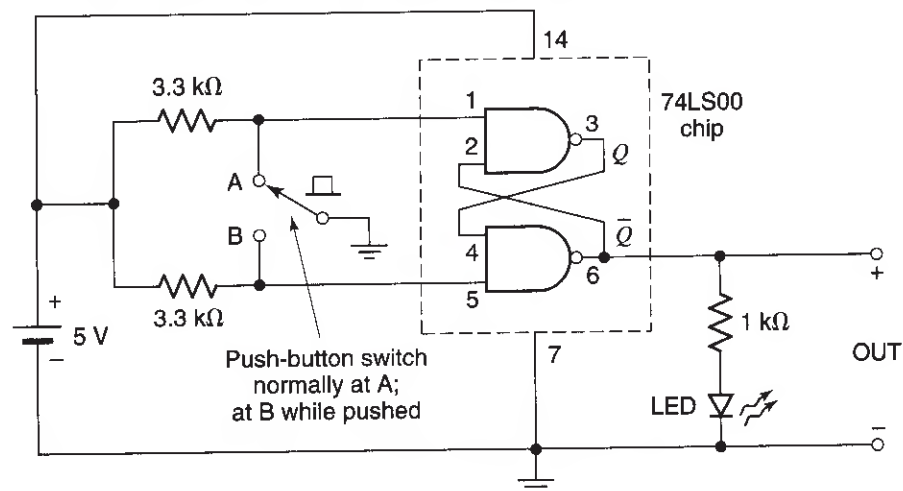

Fig. 3
- 3. DEBOUNCED CLOCK switch circuit:** Voltages generated by throwing switches that can bounce can be "cleaned," or "debounced," by using an SR latch, as shown in Fig. 3. This circuit is similar to one used in Experiment 14, and can be understood through that material. The switch is normally at A, making the voltage there 0 and the voltage at B high. When the switch is pressed, it momentarily touches B and then bounces. The first of the down transitions in the voltage at B sets the flip-flop, and further ups and downs in that output do not change the flip-flop's state. Similarly, when the switch is released, it touches A and then bounces; the first of the down transitions of the voltage at A resets the flip-flop. Thus, the output voltage of the circuit is a clean 1 or 0 and is oblivious to switch bouncing. This voltage can be used to drive other digital circuits. To conclude, then, the output of this circuit is normally 0 and becomes "clean" 1 for as long as the switch is pressed.